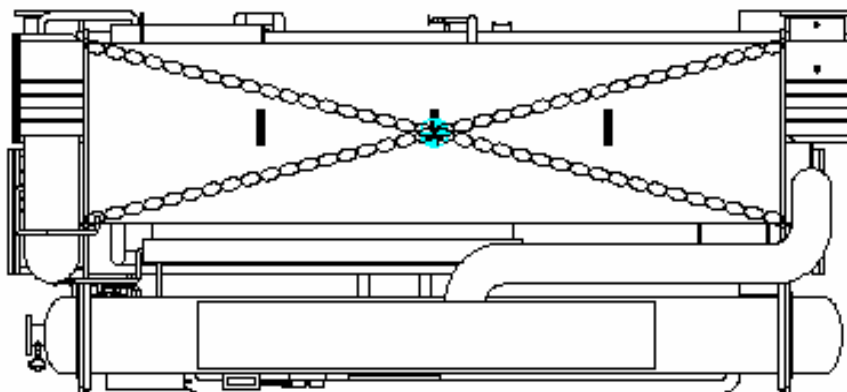
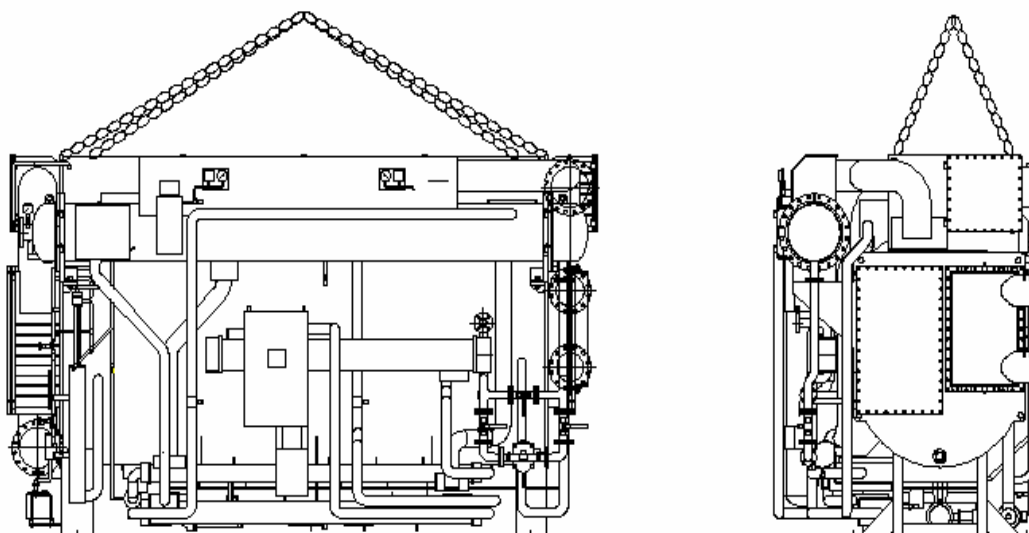

Fig. 3-2. Rigging The Unit, Typical, Top View
Fig. 3-3. Rigging The Unit, Typical, Side and End Views
- 2) Hang the shackles and wire rope as illustrated in Fig. 3-2. and Fig. 3-3. Lifting holes are furnished in the each top corners of the machine lower shell. The shackle size and the wire diameter shall be selected per the machine weight.